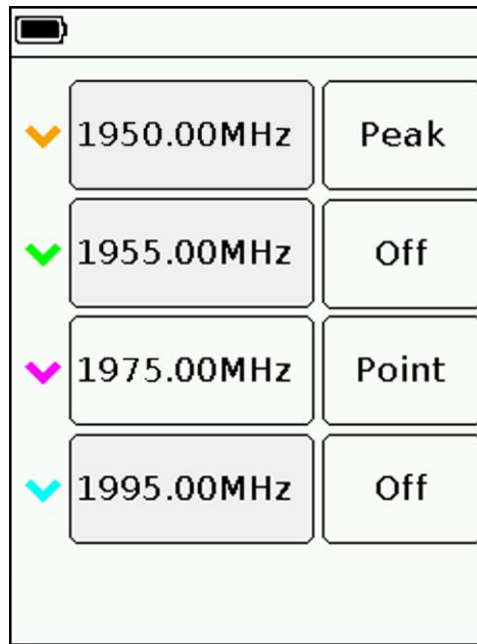

Figure 8.5.1 - Menu for setting markers and displaying peak values
8.5.1. Enter the main menu of the device and select the «Markers» section. A menu will appear on the screen, as in Figure 8.5.1.